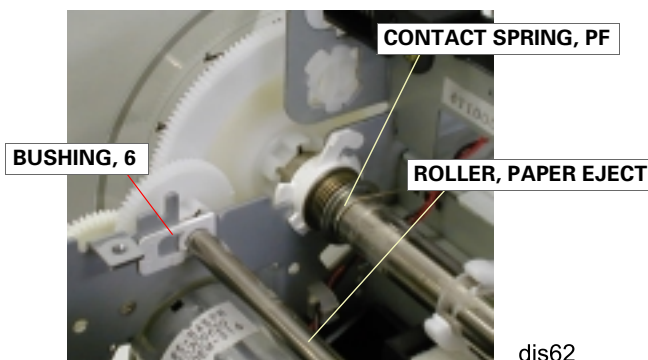

Figure 4-56. ROLLER, PAPER EJECT Removal
15. Remove CONTACT SPRING, PF hung to ROLLER, PF and FRAME, BOTTOM. (Refer to Figure 4-56.)